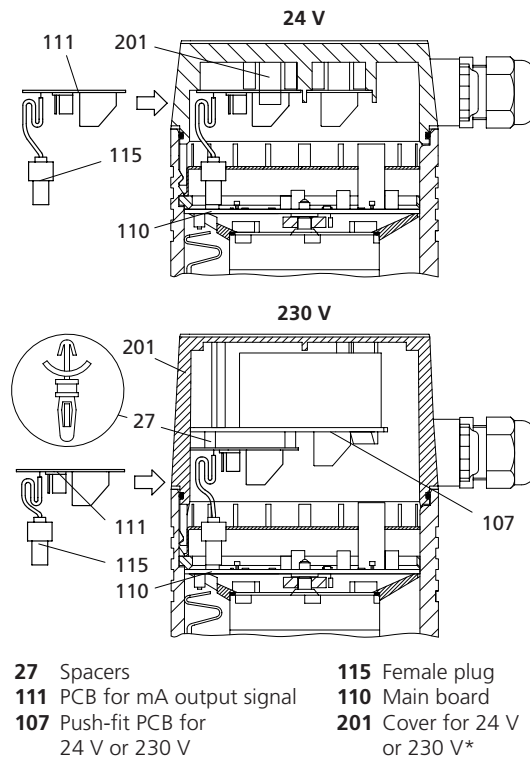

Fig 4.5 Fitting a PCB for the mA output signal
- 2 Remove the cover (201) carefully.
- 3 Disconnect the plug-in connection between the main PCB (110 - see Figure 4.5) and the cover (201).